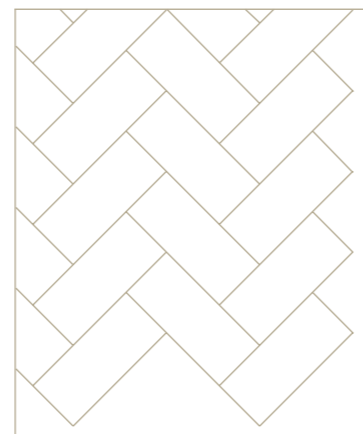

Figure 7: Fitting up against the wall.
6. Planks and fitted pieces against a wall should be cut to leave a 10-15 mm gap to the wall. See figure 7.